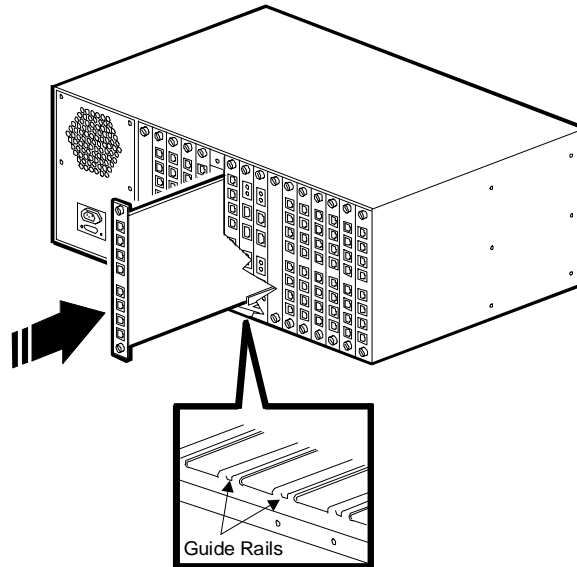

Figure 2-6. Inserting Modem Adapter Cards
2. Starting at slot 1, hold the modem adapter card by the edges with the rear panel facing towards you and align the card with the metal guides of the slot in which you wish to install the card. Refer to Figure 2-6.